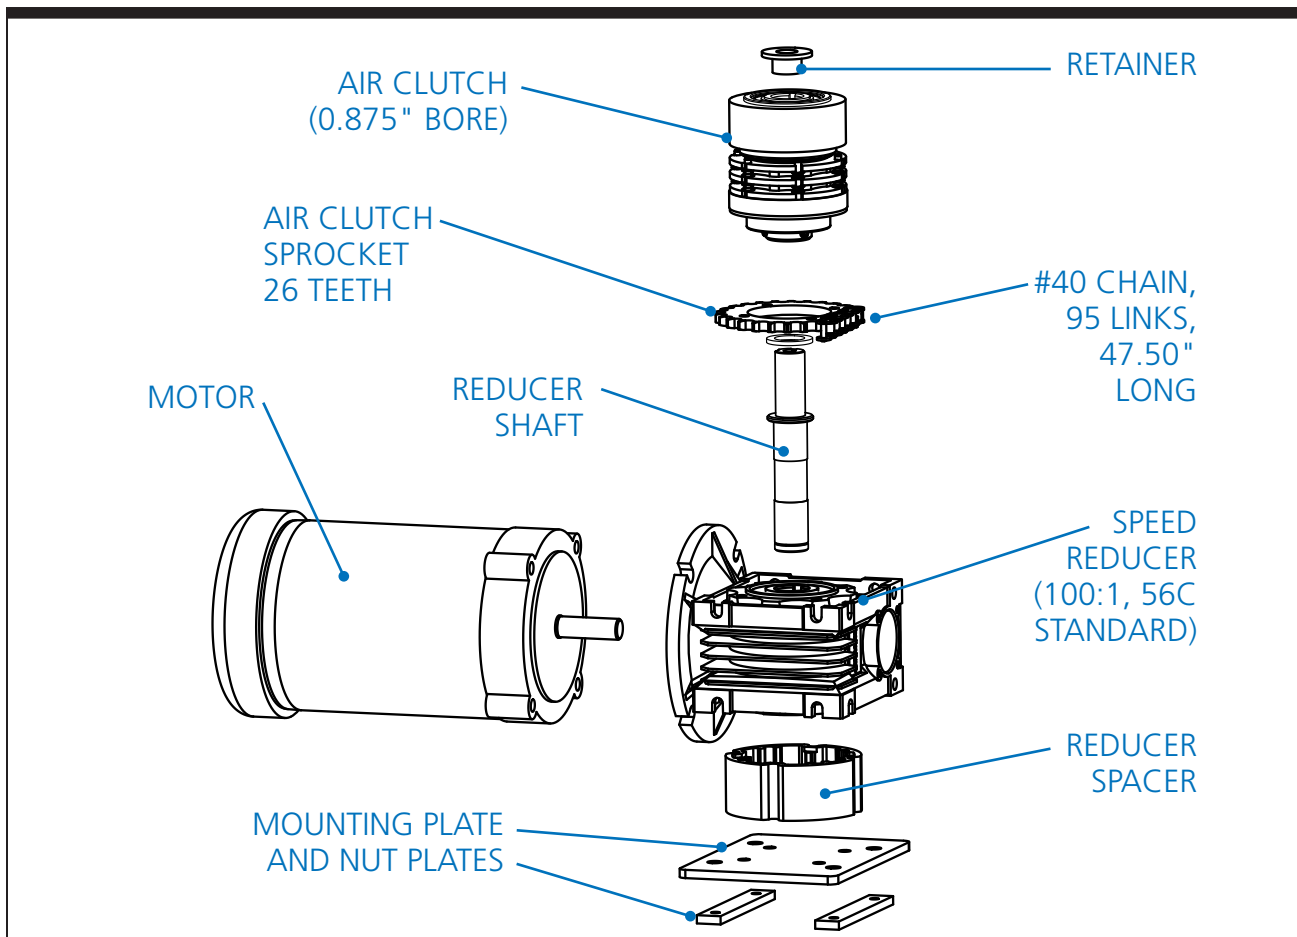

Figure 5-2. FS-30-RD Drive Assembly Exploded View
Step 6—Assembly the Output Shaft and Air Clutch Assembly. The output shaft on the speed reducer is removable and is available as a separate kit. If replacement is required, clean both contact surfaces before assembly and apply any appropriate anti-seize compound to avoid oxidation (rust) and possible seizing of the parts (refer to the manufacturer's technical information sheets that correspond with the output shaft on your equipment.) Slide the air clutch assembly down onto the reducer output shaft (see Figure 5-2) until it bottoms out against the shoulder. Tighten the setscrew.
Step 3—Begin Air Clutch Replacement. Note the order of the components before replacing the unit (refer to Figure 5-2). Disconnect the air supply.